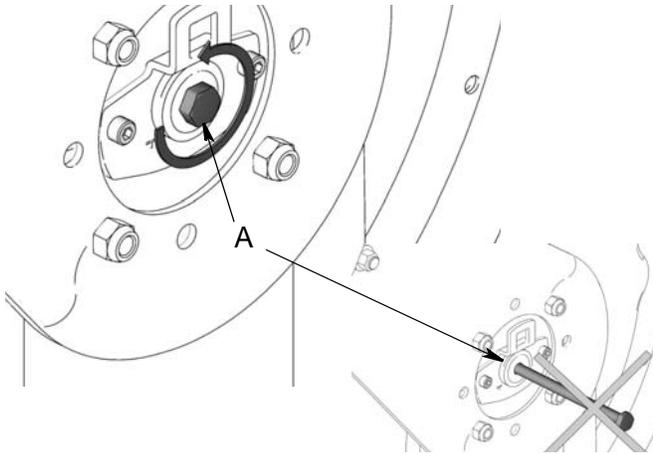

FIG. 11
1. If it is not already loose, loosen (A) 3-5 turns. Do not remove (A)! (FIG. 11).